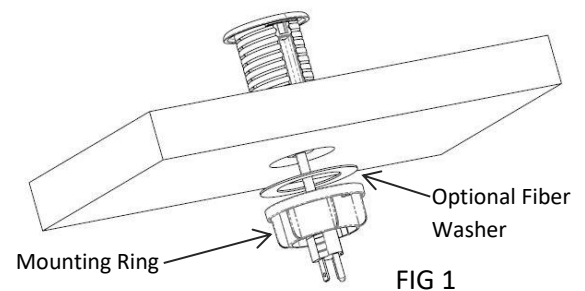
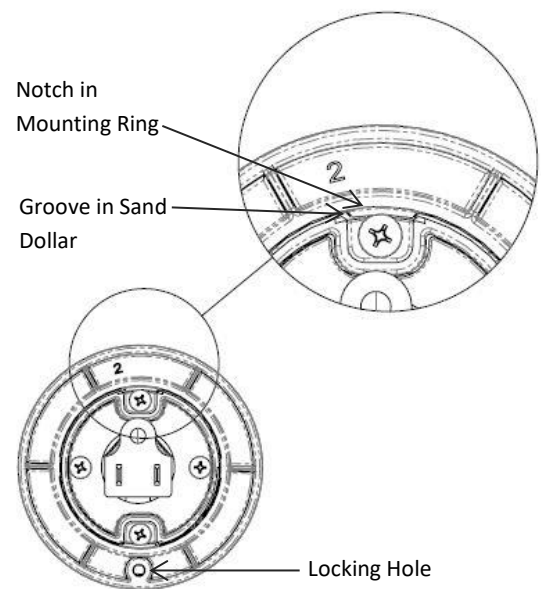

FIG 1
FIG 2
- 1-** Determine the Sand Dollar (A) mounting location and prepare the surface by cutting the mounting hole.
- 2-** Remove Mounting Ring and Fiber Washer from Sand Dollar by unscrewing them as shown in FIG 1. Retain for later use.
- 3-** Insert the Sand Dollar through the cutout from above and position as desired. Align grooves in Sand Dollar with notch in mounting ring, as shown in FIG 2, and slide Mounting Ring upward until it comes in contact with underside of table. Rotate Mounting Ring clockwise, ensuring notch engages with uppermost thread, and tighten until Sand Dollar is secure in hole. NOTE: If Mounting Ring disengages from threads before Sand Dollar is fully secure, remove and install Fiber Washer, as shown in FIG 1, and repeat step 3.